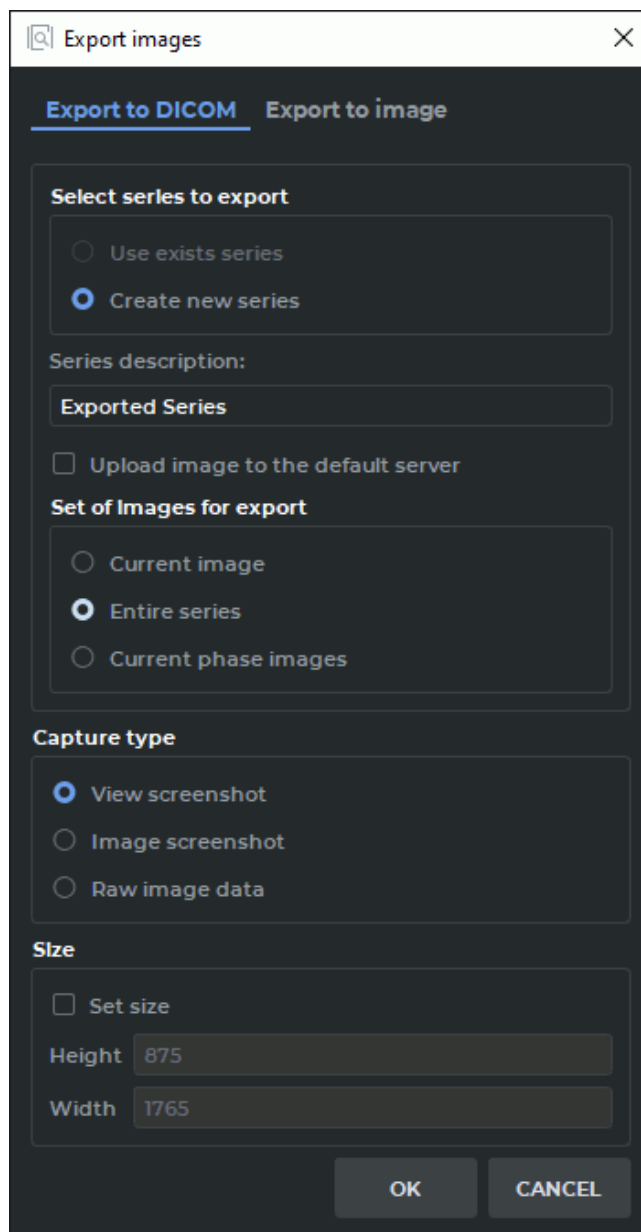

Figure 2.81: DICOM export window
2. Select the **Export to DICOM** tab. The export window will look as shown in Fig. 2.81.